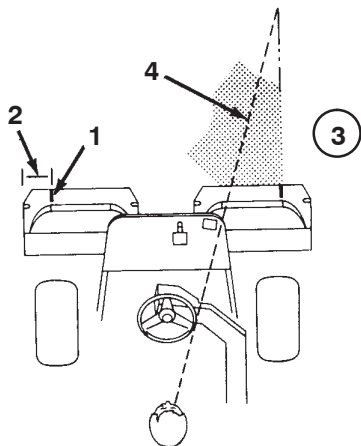

Figure 32
- Either place a strip of white tape or paint a line onto each basket paralleling the outer edge of each basket (Fig. 32).
- Overlap a minimal amount with the previous cut on return passes. To assist in maintaining a straight line across the green and keep the machine an equal distance from the edge of the previous cut, establish an imaginary sight line approximately 6 to 10 ft. (1.8 to 3 m) ahead of the machine to the edge of the uncut portion of the green (Fig. 32 and 33). Some find it useful to include the outer edge of the steering wheel as part of the sight line; i.e. keep the steering wheel edge aligned with a point that is always kept the same distance away from the front of the machine (Fig. 32 and 33).